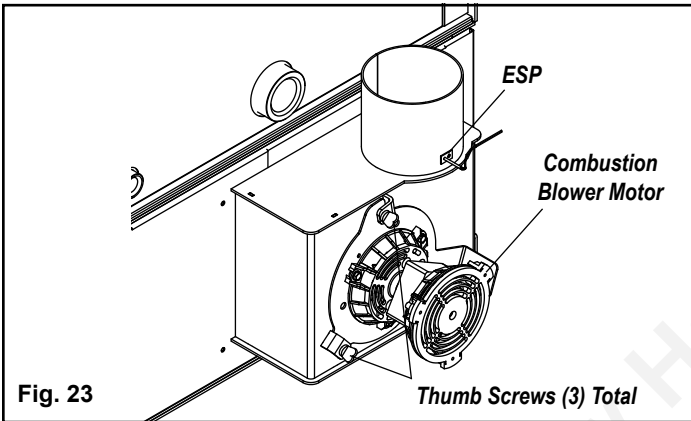

Fig. 23
Loosen the three (3) thumb screws about 4 turns each. See Fig. 23. Hold the motor head with one hand and the blower plate handle with the other hand. Pull outward on the plate handle until the complete unit comes loose. Now rotate the plate counter-clockwise about 1/8 turn. This will allow the complete assembly to be removed from the blower chamber.
NOTE: The exhaust probe sensing tip extends into this same area. CARE MUST BE TAKEN NOT TO DAMAGE THE ESP DURING CLEANING. Bending of the ESP will make it difficult to remove if it should become necessary. See Fig. 23.